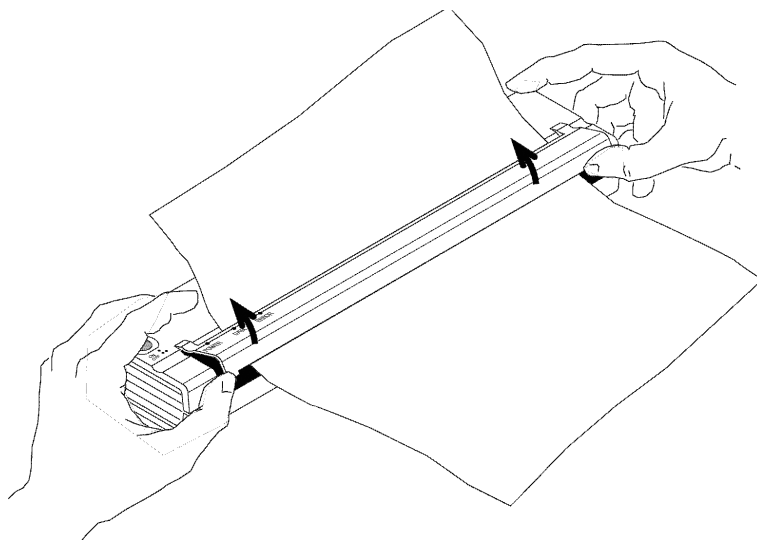

Figure 15. Opening the release cover
- If the printer *does not* start to print immediately, open the release cover as far back as it will go. See Figures 15 and 16, pages 41 and 42. Pull the paper out, close the cover, and reinsert paper.
See Figure 15.